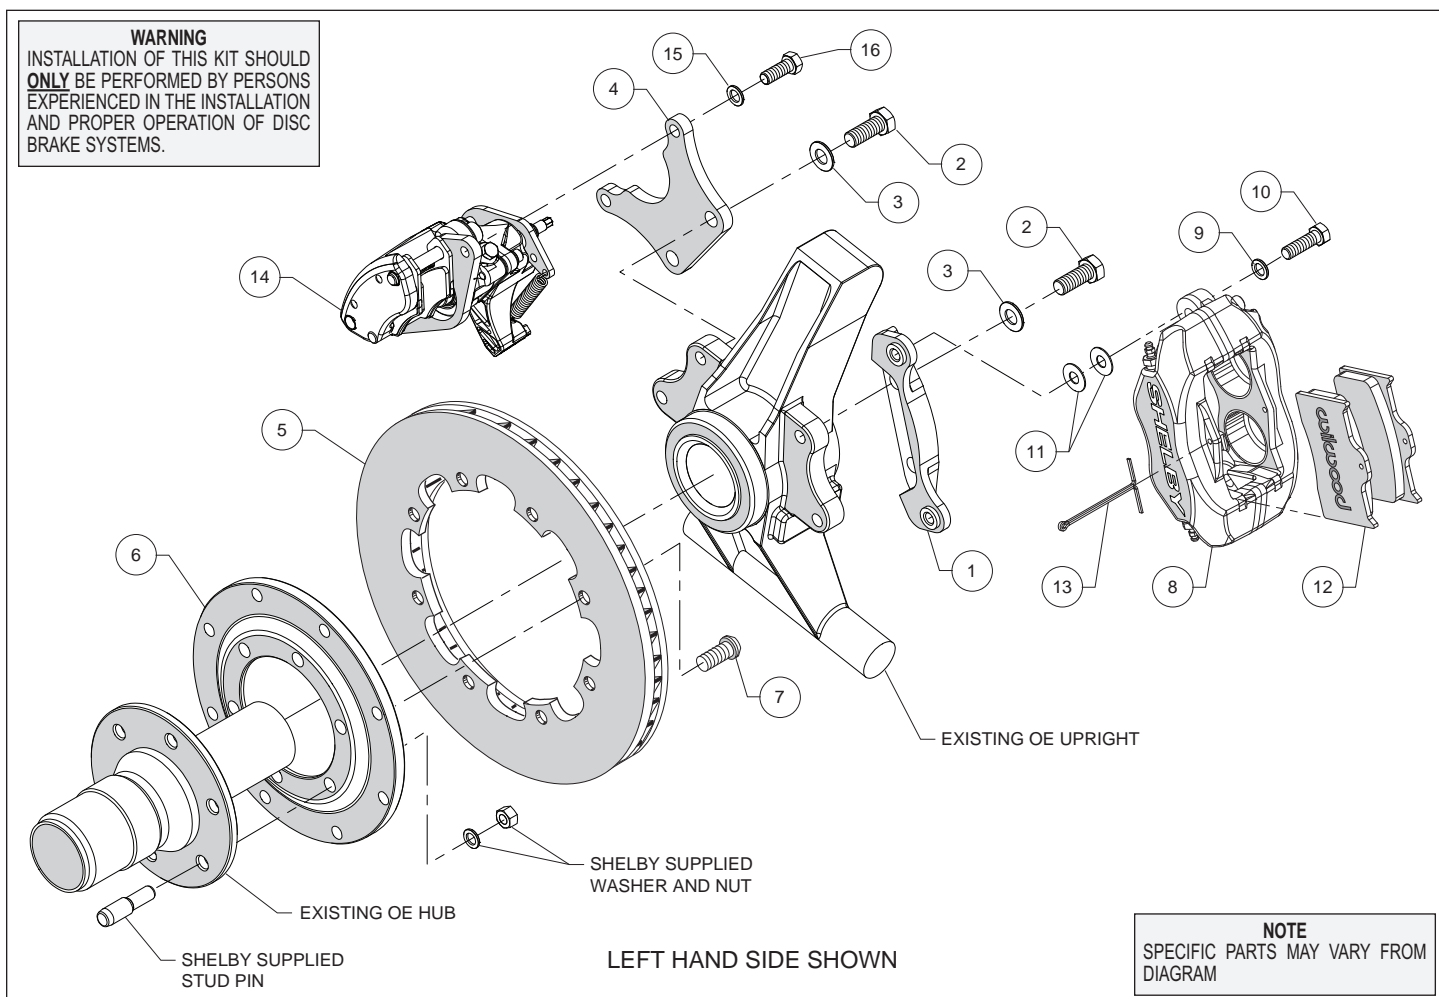
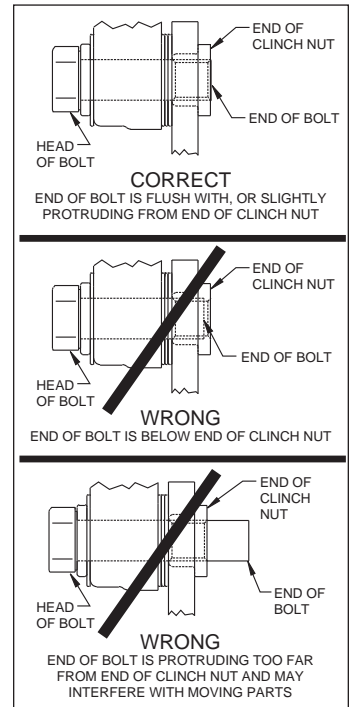

Figure 1. Typical Installation Configuration
Figure 3. Clinch Nut Engagement Diagram
**Assembly Instructions** (numbers in parenthesis refer to the parts list and Figure 1 on the preceding pages): **CAUTION:** All mounting bolts must fully engage clinch nuts. Be sure to check that all bolts are either flush or protruding through flanged side of clinch nut after shimming, Figure 3.
• Orient the Dynalite caliper mount bracket (1) as shown in Figure 1 and install using bolts (2) and washers (3). Ensure that the flanged heads of the clinch nuts in the bracket are facing outboard, Figure 1. Temporarily tighten the mounting bolts. **NOTE:** The bracket must fit squarely against the mount bosses on the upright. Inspect for interference from casting irregularities, machining ridges, burrs, etc. Remove bolts one at a time, apply red *Loctite*® 271 to the threads and torque nuts to 60 ft-lb.
• Orient the parking brake caliper mount bracket (4) as shown in Figure 1 and install using bolts (2) and washers (3). Temporarily tighten the mounting bolts. **NOTE:** The bracket must fit squarely against the mount bosses on the upright. Inspect for interference from casting irregularities, machining ridges, burrs, etc. Remove bolts one at a time, apply red *Loctite*® 271 to the threads and torque nuts to 60 ft-lb.
• Orient the rotor (5) and the rotor adapter (6) as shown in Figure 1 and Photo 1. Attach the rotor to the adapter using bolts (7). Using an alternating sequence, apply red *Loctite*® 271 to the threads, and torque to 25 ft-lb.
• Mount the adapter/rotor assembly (5/6) to the hub (customer supplied) using stud pin, washer and nut (all customer supplied), as shown in Figure 1. Using an alternating sequence, apply red *Loctite*® 271 to the threads, and torque nuts to manufacturer's specifications.
• **NOTE:** Please reference the caution statement at the beginning of the assembly instructions. Mount the Dynalite caliper (8) onto the Dynalite caliper mounting bracket (1) using bolts (10) and washers (9), as shown in Figure 1. Initially place two .035" thick shims (11) on each bolt between the caliper and the bracket, Photo 2. Temporarily tighten the mounting bolts and view the rotor (5) through the top opening of the caliper. The rotor should be centered in the caliper, Photo 3. If not, adjust by adding or subtracting shims between the bracket and the caliper. Always use the same amount of shims on each of the two mounting bolts. **NOTE:** The end of each bolt must be flush with or slightly protruding from the head of the clinch nut, as shown in Figure 3. If necessary place spare shims between washer (9) and caliper mounting ear to achieve the proper clinch nut engagement. Once the caliper alignment and clinch nut engagement are correct, remove the bolts one at a time, apply red *Loctite*® 271 to bolt threads, and torque to 40 ft-lb.
- Mount the parking brake caliper (14) onto the parking brake caliper mounting bracket (4) using bolts (16) and washers (15), as shown in Figure 1. Apply red *Loctite*® 271 to bolt threads, and torque to 40 ft-lb.